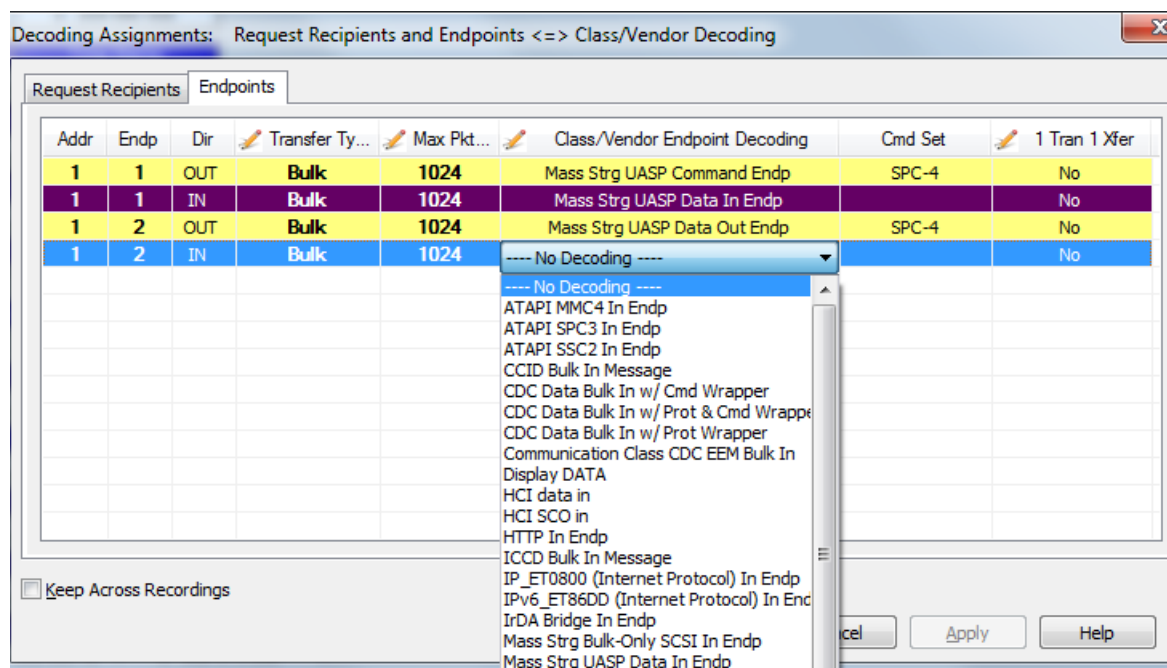

Figure 8.5: Class/Vendor Endpoint Decoding Drop-down Menu.
8. Display the **Class/Vendor Endpoint Decoding** drop-down menu (see Figure 8.5 on page 195):